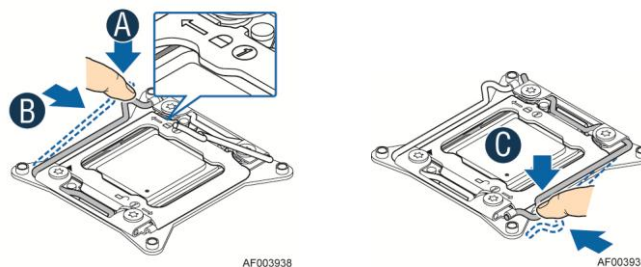

Figure 12. Installing Processor – Latch the Locking Lever
- Open the socket lever, see Figure 12.